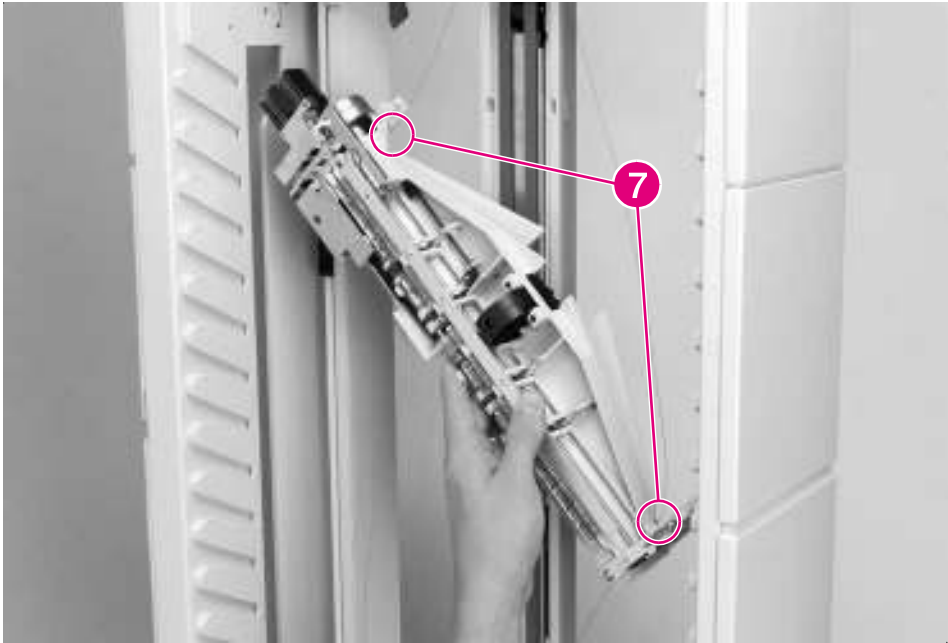

Figure 6-172 8-bin Mailbox Delivery Head Assembly (4 of 4)
- 10** Release the Anticurl Strings from the pulleys on each end of the Delivery Head Assembly (Figure 6-172, callout 7).